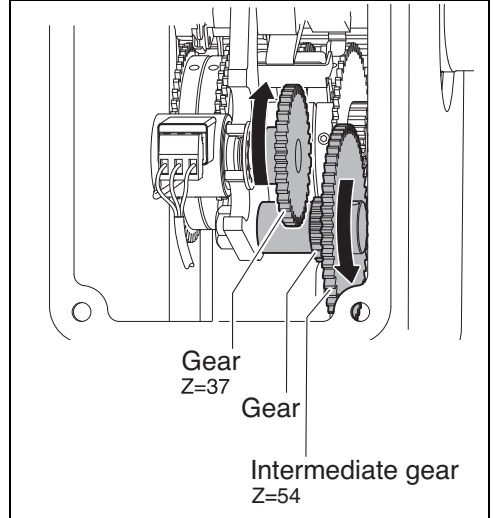

Fig. 18
- ▶ Use the attached gear to turn the potentiometer **against the rotation direction of the Z54 intermediate gear** to just before the end position (see Fig. 18).